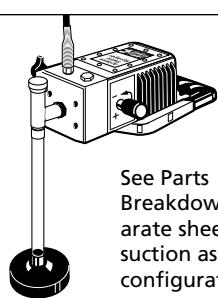

Figure 7 - Attach Suction Assembly
- Attach Suction Assembly securely (See Figure 7) and place both suction and bypass tubes in cleaning solvent.